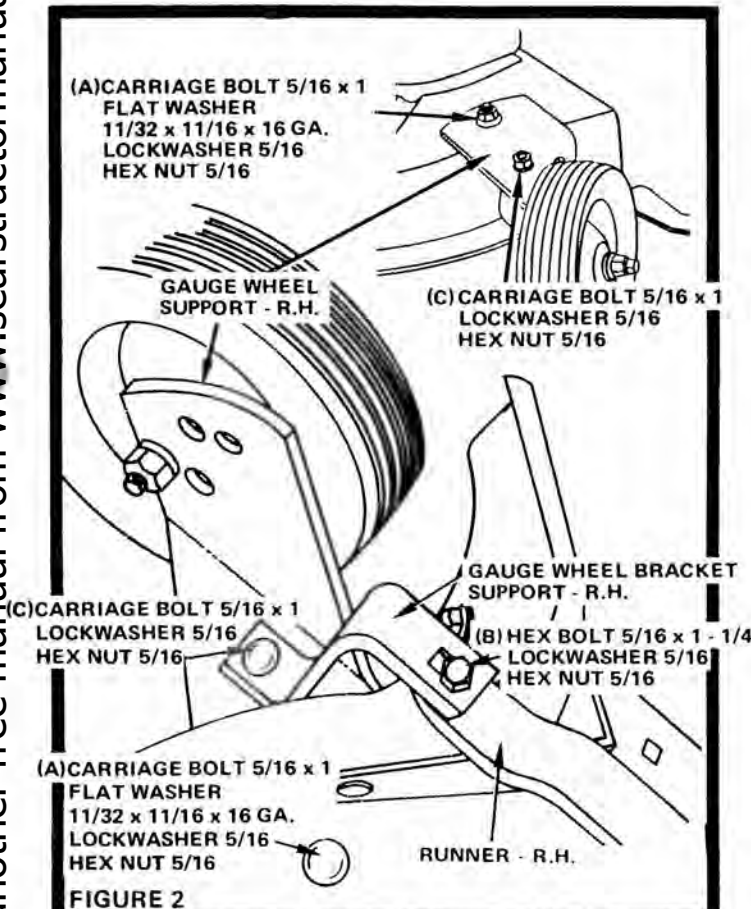

FIGURE 2
3. Assemble Gauge Wheel Support - R.H. to Mower Housing (Fig. 2).